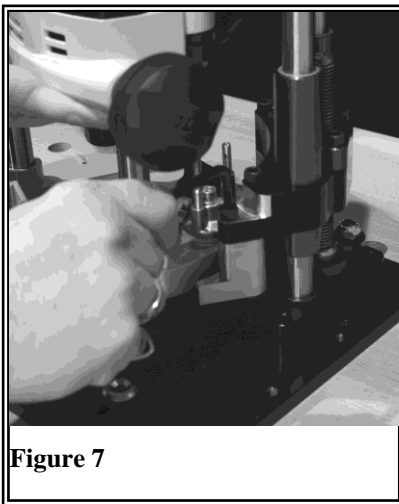

Figure 7
8. Pull up on the router until it meets the right carriage bracket. Now secure with three (3) 1-1/2 Cap screws and one (1) 1" cap screw (Figure 7)